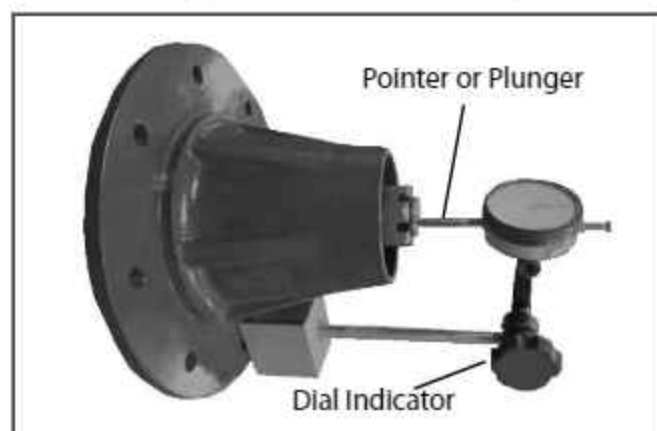

FIG. 5-9. Installing the Dial Indicator
2. Attach the base of the Dial Indicator to the mounting face of the hub. See Fig. 5-9.